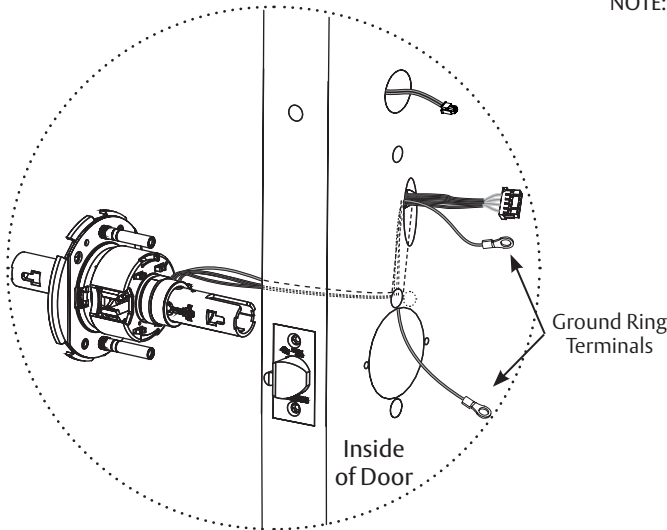

Fig. 14
- b. Continue to feed harness into raceway (towards top of door), exiting raceway hole on inside of door. (Fig. 14)